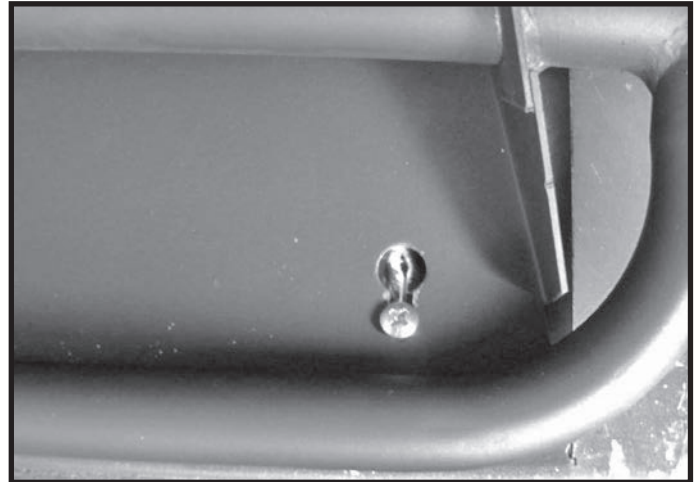

Figure 5: Lower burner keyhole slot.
3. Tighten screws once the lower burner has been fitted onto the keyhole slots (Figure 5).